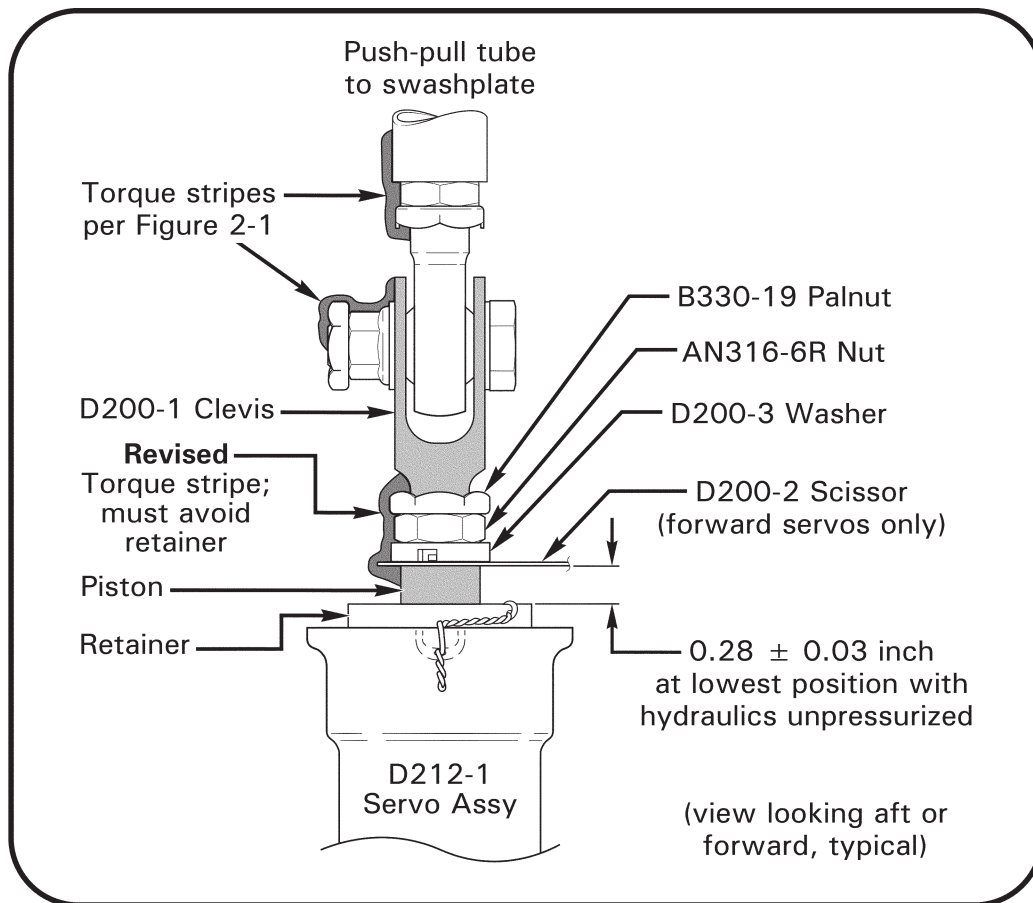

FIGURE 2-7 CLEVIS TORQUE STRIPE
**7. Open Cowling Doors (7A), Remove Tailcone Cowling (7B) & Mast Fairing (9) (cont'd)**
**Forward Hydraulic Servos:** Inspect condition; verify no obvious defects. Hydraulic fluid seepage is permissible ("seepage" is evidence of fluids without flow, drips, or runs) provided fluid does not contaminate MRGB rubber mounts. Verify servo input rod end/clevis area is clean; cleanse area with non-residue, non-alcoholic solvent as required. Verify approximately 0.040 inch total free-play at servo valve input. Inspect rod ends per § 2.120. Verify valve clearance to surrounding structure while flight controls are moved through full range of travel. Inspect condition and verify security of scissors at upper clevis of servos. Inspect clevis security and torque stripe per Figure 2-7.
**Aft Hydraulic Servo:** Inspect condition; verify no obvious defects. Hydraulic fluid seepage is permissible ("seepage" is evidence of fluids without flow, drips, or runs) provided fluid does not contaminate MRGB rubber mounts. Verify servo input rod end/clevis area is clean; cleanse area with non-residue, non-alcoholic solvent as required. Verify approximately 0.040 inch total free-play at servo valve input. Inspect rod ends per § 2.120. Verify valve clearance to surrounding structure while flight controls are moved through full range of travel. Inspect clevis security and torque stripe per Figure 2-7.